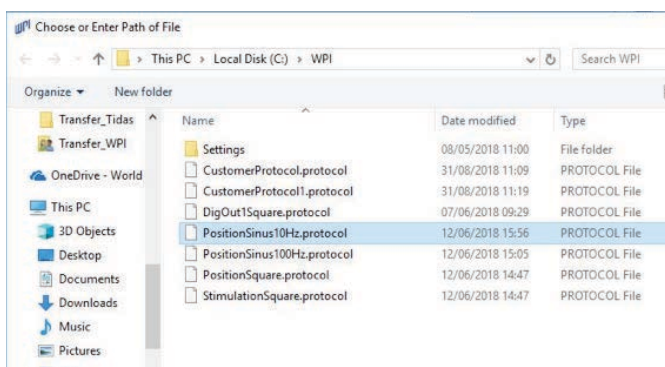

Fig. 48—Choose the location where the protocol is located and press OK.
2. On the next window (Fig. 48), navigate to the appropriate directory and select the position protocol needed in the experiment. Click **OK** to activate the selected protocol.
1. Select the stimulation protocol, if any, to be used during the recording. Select **Load Stimulation Protocol** from the **Protocols** pull down menu (right). The **Choose or Enter Path of File** window appears (Fig. 48).
1. Load any analog output protocols that are needed during the recording. Select **Load OUT 3** from **Load Protocol** under **Protocols** pull down menu (right). The **Choose or Enter Path of File** window appears (Fig. 48).